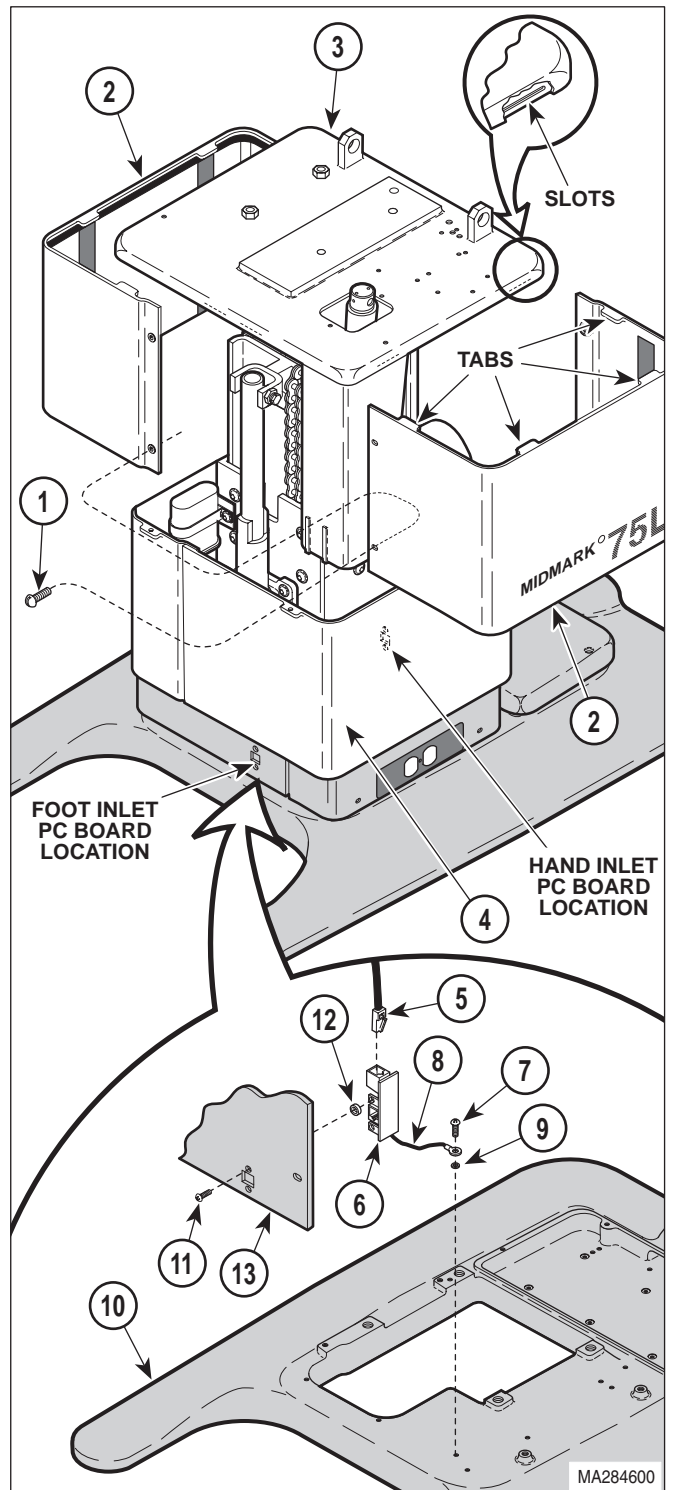

Figure 4-27. Inlet PC Board Removal / Installation
- (2) Remove four screws (1, Figure 4-27) and R.H. and L.H. outer shrouds (2) from column adapter weldment (3).
- (3) Lower middle outer shroud assembly (4) down out of way.
- (4) Unplug modular cord (5) from port of inlet PC board (6).
- (5) Remove screw (7), wire (8), and starwasher (9) from base casting (10).
- (6) Remove two screws (11), inlet PC board (6), and spacers (12) from inner shroud (13).